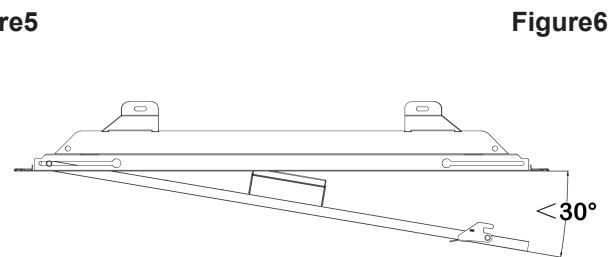

Figure6
STEP4: Locate the hollow rivet of the panel kit onto the keyholes of mounting brackets A(Double side) in a position such that the angle between the ceiling and the panel kit is less than 30 degrees(Figure 6), then slide the panel kit horizontally to the end of slots.